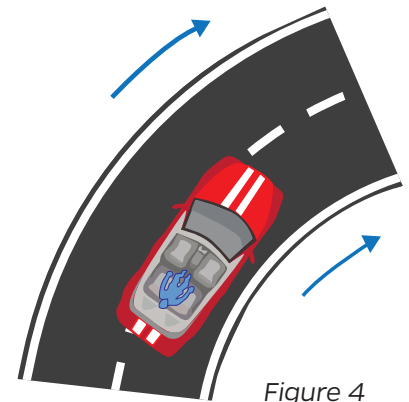

Figure 4
8. Use the following 3 terms to explain what happens to an unbelted back-seat passenger (see Figure 4) when a car turns swiftly to the right on a flat road: